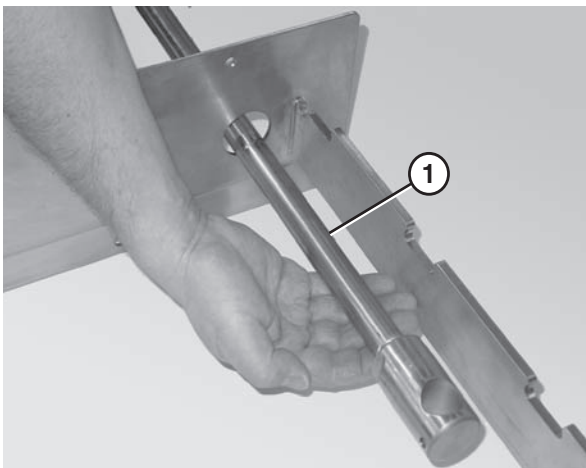

Figure 19
1. Slide the tip up shaft (Figure 19, item 1) through the designated slots in the frame.